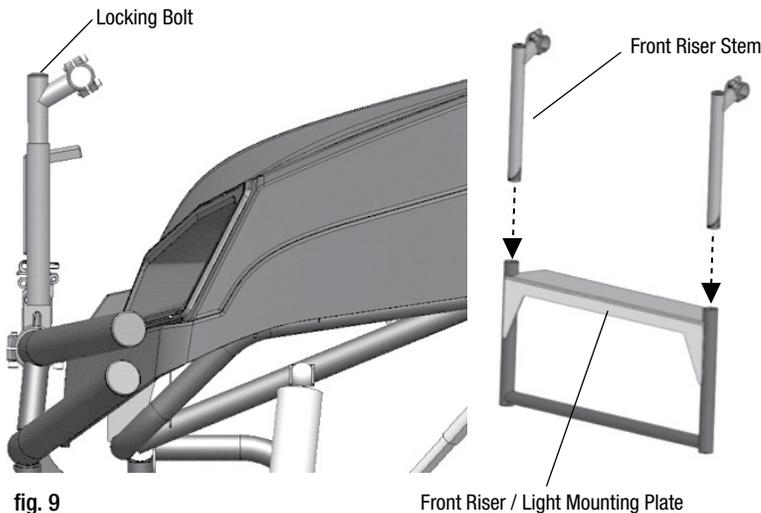

fig. 9
- 8 Note the riser orientation shown below in figure 9. Insert the 2 Front riser stems (H) into the front riser / light mounting plate a few inches in. Tighten the locking bolt at the top of the tube with allen wrench just enough to hold the riser stems in place. You will tighten **after** final assembly.